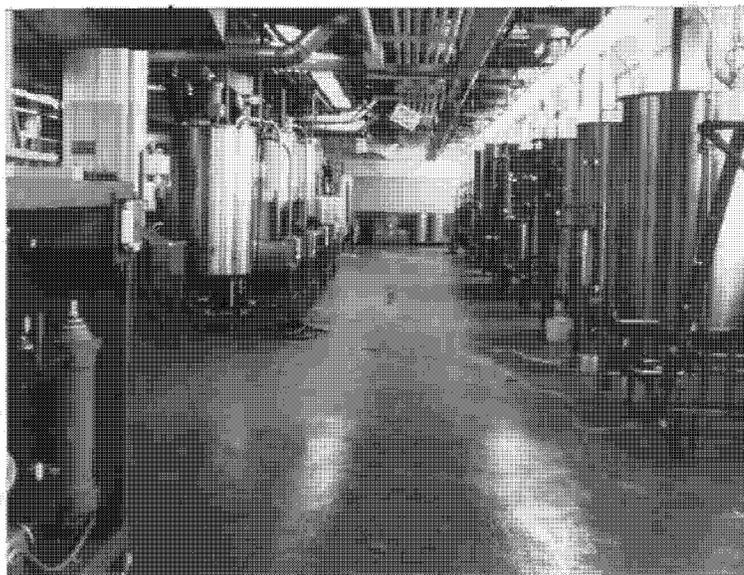
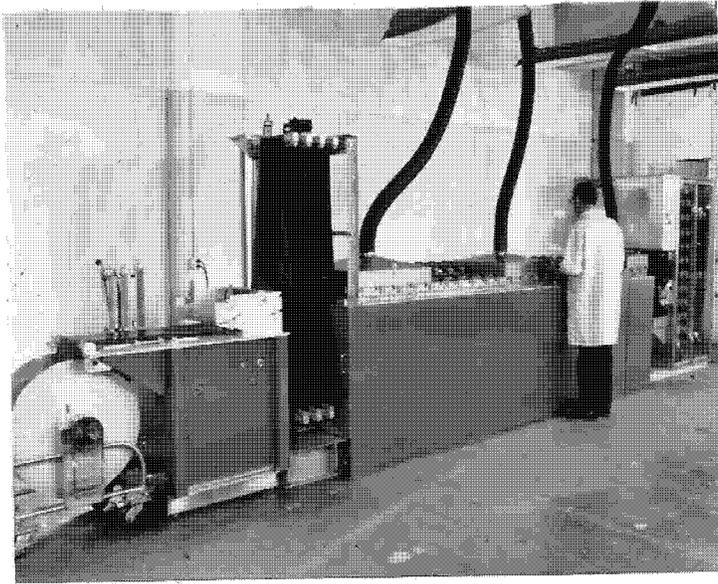

Figure 49 - Color Chemical Mix Room
Figure 50 - Multi-Purpose Modular Processor (MP)²
The color processing and reproduction capability is currently undergoing revision as part of technical upgrade and consolidation into co-located Bridgehead facilities at Hawkeye (see page 6). A new Chemical Mix Room (Figure 49) has been established and the Multi-Purpose Modular Processor (MP)² is on-line at Bridgehead. The (MP)² (Figures 50 and 51) is used to process reversal infrared color acquisition films from missions and supports extensive test work. Throughput rates are comparable to the Grafton. A major new Color Production Processor (CP)² is currently being designed for installation at Bridgehead. The (CP)² will have throughput rates of up to 50 feet per minute, will incorporate optical titling, and will permit production volume delivery of color duplicates simultaneous with delivery of correlated black-and-white films.